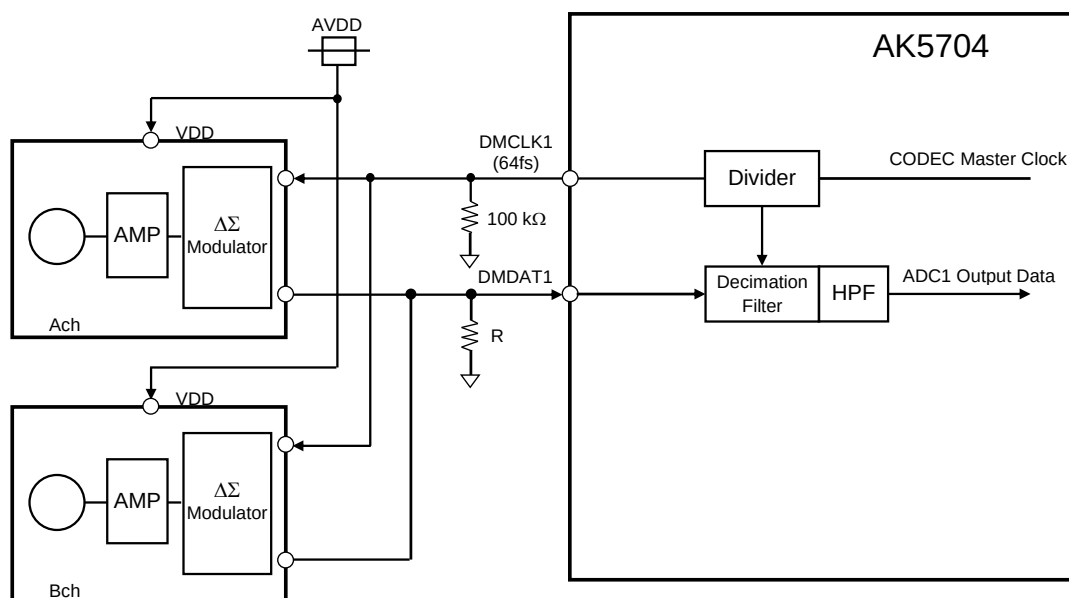
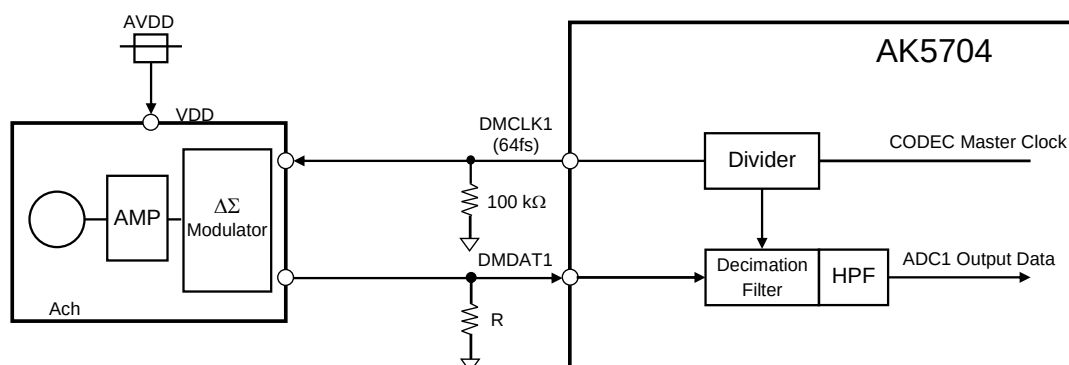

Figure 33. Connection Example of Stereo Digital Microphone (DMIC1 bit = “1”)
Figure 34. Connection Example of Monaural Digital Microphone (DMIC1 bit = “1”)
The same power supply as AVDD must be provided to the digital microphone. The Figure 33 and Figure 34 show stereo/mono connection examples. By dividing the master clock to 64fs with divider, the DMCLK1 (DMCLK2) signal is output from the AK5704, and the digital microphone outputs 1bit data, which is generated by $\Delta\Sigma$ Modulator, to DMDAT1 (DMDAT2). PMDM1A/B (PMDM2A/B) bits control power up/down of the digital block (Decimation Filter and HPF). PMAD1A/B (PMDM2A/B) bits settings do not affect the digital microphone power management. The DCLKE1 (DCLKE2) bit controls ON/OFF of the output clock from the DMCLK1 (DMCLK2) pin. When the AK5704 is power-up (PDN pin = “H”), external pull-down resistor (R) should be connected to the DMDAT1 (DMDAT2) pin to avoid floating state. Note that when using the digital microphone it does not support quad speed mode (fs $\geq$ 128 kHz).